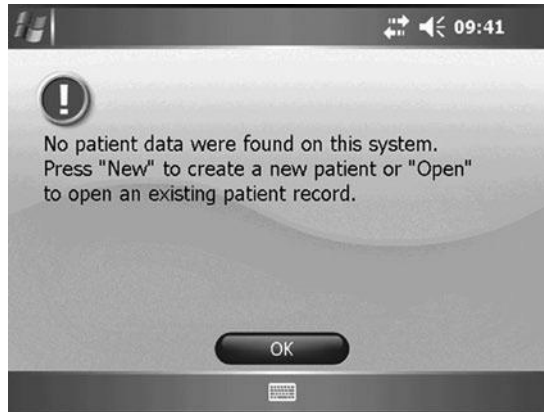

Figure 7-1. Unassigned system detected.
2. If the EPT and patient programmer are unassigned, then the application should automatically prompt that no patient data were found on the system. Press "OK." See Figure 7-1.
2. If the EPT and patient programmer are unassigned, the StimRouter application should automatically prompt that no patient data were found on the system. Press "OK." See Figure 7-1.